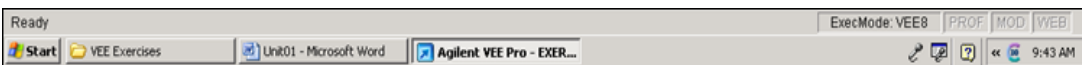

Figure 1-1 The Status Bar and the Microsoft Taskbar
- 2 Go to the bottom VEE grey bar; it is the Status Bar. See Figure 1-1. Prior to program preparation, it is "Ready" on the left and ExecMode: VEE 8. (If you open an old program, it will indicate its VEE Execution Mode.)